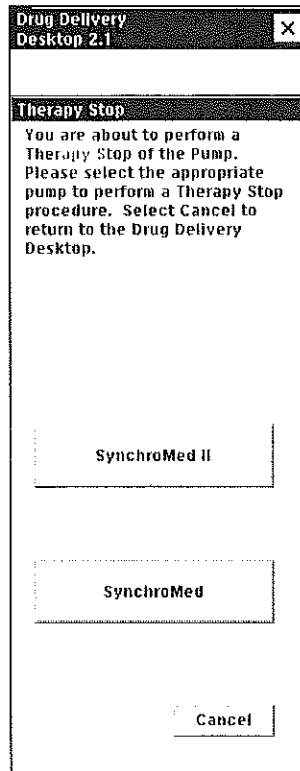

Figure 58. Selecting a pump for Therapy Stop.
4. When the Therapy Stop dialog box appears, select the SYNCHROMED II button to continue (Figure 58).